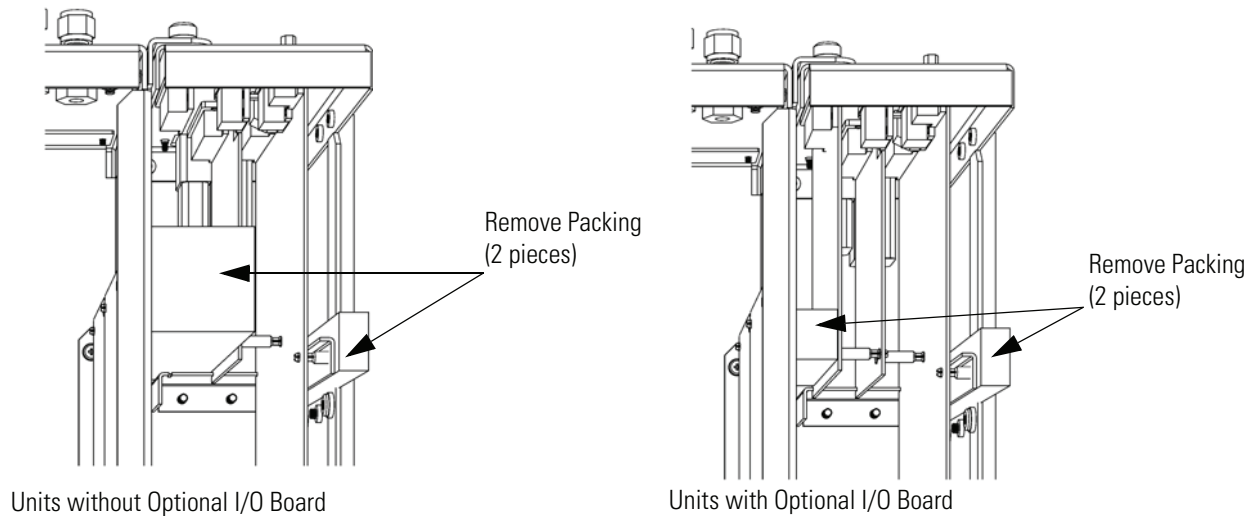

Figure 2-1. Remove the Packing Material
3. Remove the packing material (Figure 2-1).